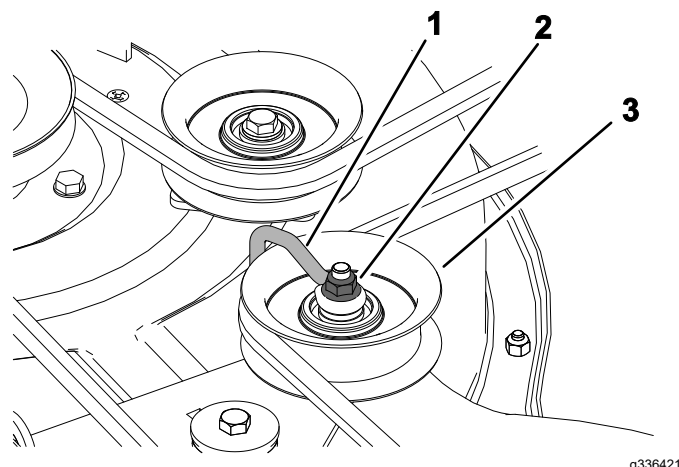

Figure 50
5. For decks with 3 blades, loosen the nut securing the wire form to the idler pulley (Figure 50).
Note: Position the wireform against the idler arm as shown in Figure 50.